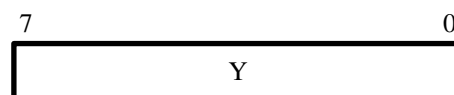

Figure 24. YCrCb 4:0:0 Color Space.
- YCrCb 4:0:0 — This format only as the Y component as shown in Figure 24. This format is equivalent to 8-Bit Grayscale RGB color space. This mode is defined as 8 bits per color and one color plane.